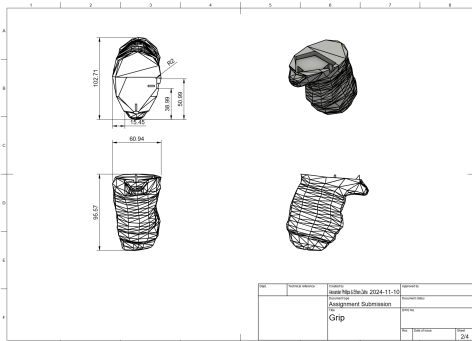
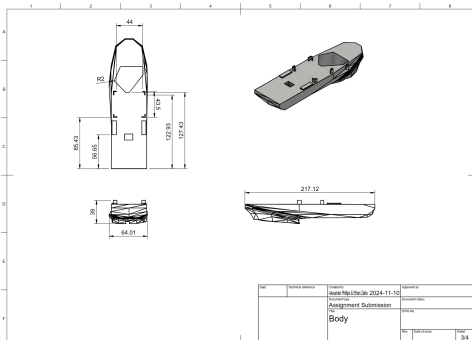

Fig. 2. Grip
Fig. 3. Body
To make sure all the components can fit safely into the controller, we widened the frame to limit potential sizing issues. The micro:bit in particular is 51.60mm wide itself, which is wider than most lightguns on the market, so we had to adjust with that in mind. The clay prototype was initially modelled to be (12cm (L) x 4cm (W) x 12cm (H)), with us only expecting to change its length and height for our previous vision of our CAD model. We attempted to make the size similar to other commercial products such as the Sinden Lightgun[??], which is approximately (26cm(L) x 4cm (W) x 10cm (H)) and the AimTrak Light Gun[2] (25.4cm (L) x 4.4cm (W) x 19.1cm (H)). On our clay prototype, we modelled the grip [Fig. 2] with clay to feel good in the hand and transferred our comfortability findings to the 3D-printed version. The referenced commercial products do not have such ergonomics for the grip. To avoid having loose cables, we opted to place the components near the micro:bit limiting the length of the cables, with a hole through the structure roughly 30mm in front of the micro:bit to house the micro USB [Fig. 3]. The controller grip and body were designed in two parts to avoid having buttons drop into the structure upon being pressed/pushed but will be printed as one to keep the supports together between parts. We ensured that the controller can withstand regular use through Autodesk Fusion’s simulations where we found that the current prototype can greatly withstand the maximum amount of pressure (110N) that is expected.